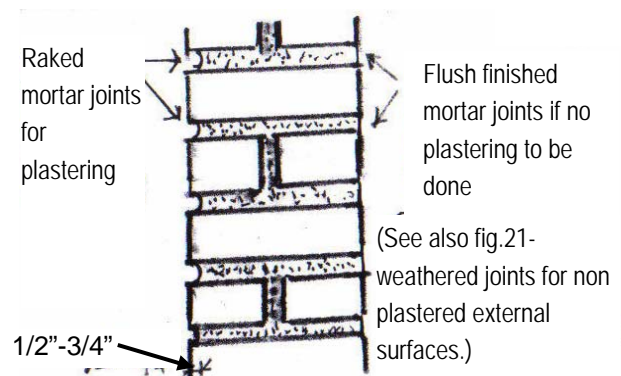

Fig 18 - **Mortar joint surfaces on walls**
- Made sure that when the mortar is green (fresh), the face joints are raked to a depth of ½ "to ¾ "in order to have proper mechanical bond for plastering or pointing. And made sure that mortar joints are struck flush and finished if no plastering is to be done (See Fig. 18)